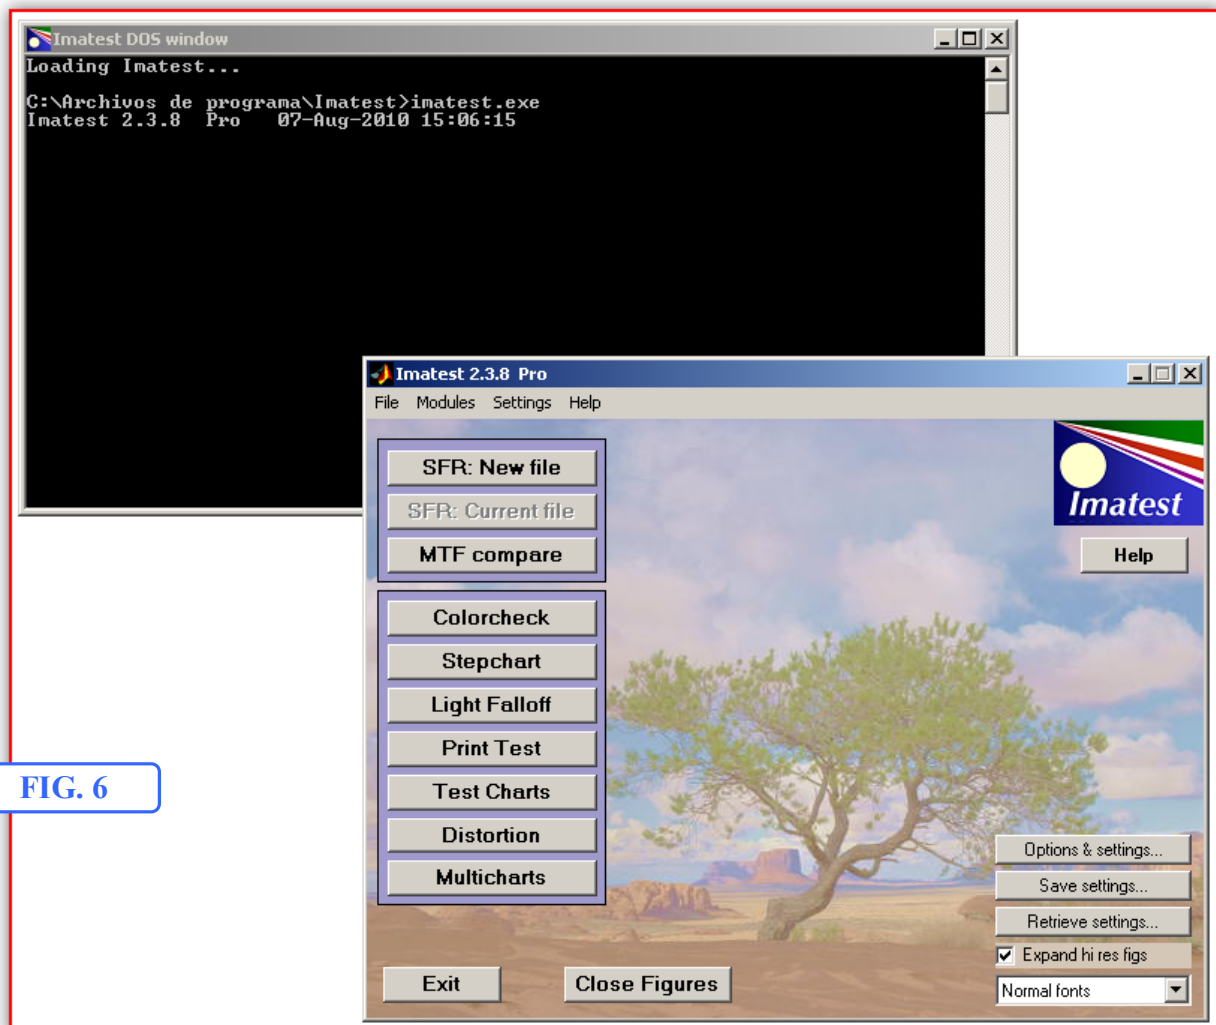

FIG. 6
- 2) Let’s open Imatest™. It opens up two windows. One shows internal processing under MS-DOS and the other is our Graphical User Interface itself. We will use this GUI (Fig 6).